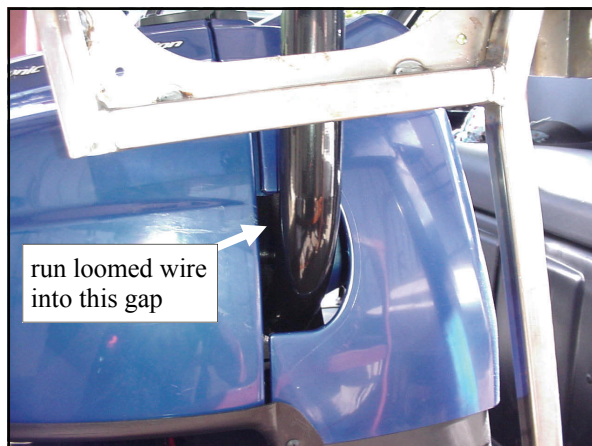

Fig. 9.2 View from driver's side
9.2 Run the loomed battery wires over the front tubular frame, down along the side tubular frame and into the gap behind the hood as shown in fig. 9.2. Secure the loomed wire to the tubular frame using three of the supplied cable ties. Snip off excess length of cable tie if desired. Lift the hood of the vehicle. Using a 10mm socket or Philips screwdriver, connect the long, red, positive wire and the long, black, negative wire to the battery. Wires are labeled. Connect the key-controlled wire as follows: using a 3/8" deep socket, temporarily remove the nut on the top threaded stud as shown in fig. 9.2.1. Place the supplied ring terminal onto the stud and re-install the original nut and tighten. Ref.: the top stud should already have an orange wire with a white stripe. This is the vehicle's key-controlled wire.